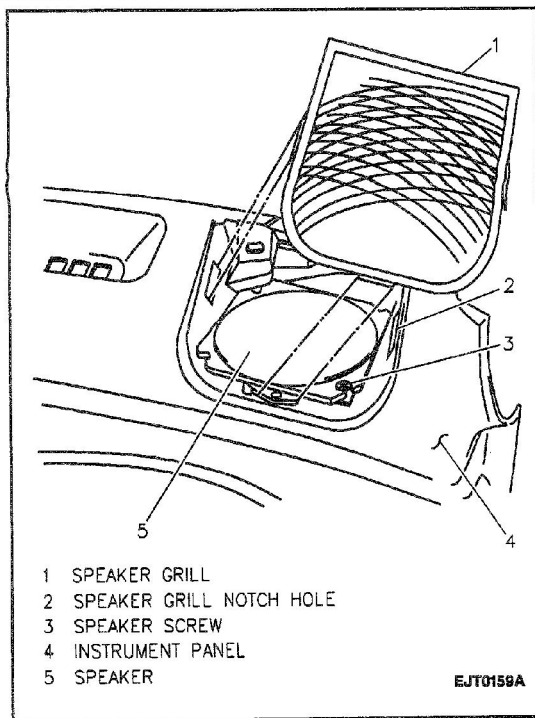

Figure 19—Front Speaker Grill Removal
33. Two front speaker grills and instrument panel upper center cover with flat-bladed screwdriver (Figure 19).